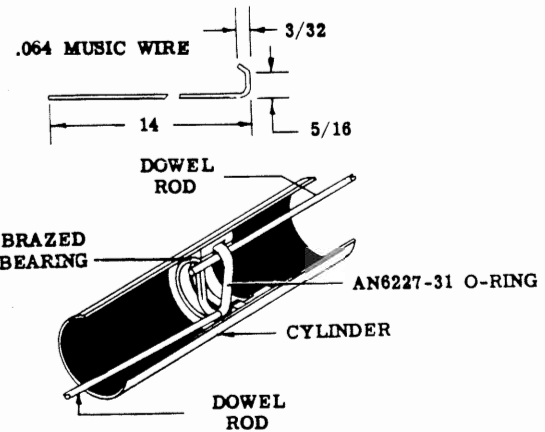

Figure 5-2. Shock Strut "O" Ring Installation
- m. Remove the "O" ring from the groove in the center brazen bearing of the barrel with a piece of wire bent as shown in Figure 5-2.
- g. Install the "O" ring in the groove in the center brazed bearing inside the barrel assembly. Use two small dowel rods to work it into position. Hold the "O" ring with one rod while working it into the groove with the other. See Figure 5-2.